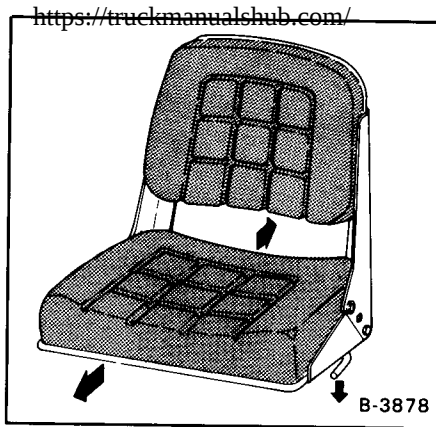
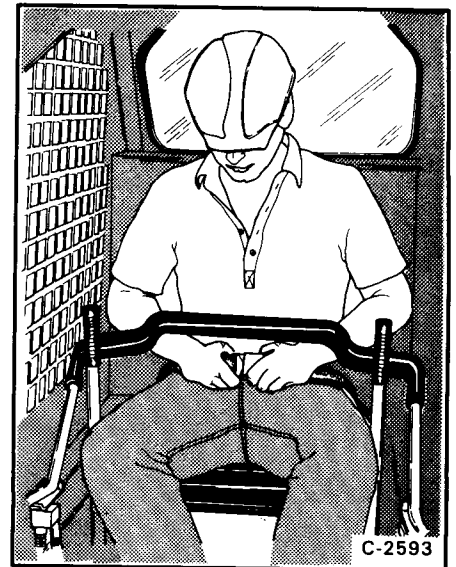

Fig. 21 Adjusting the Seat
Fig. 22 Fastening Seat Belt
1. Adjust the seat position so that you can reach the controls of the Bobcat loader (Fig. 21). Fasten and adjust the seat belt. Lower the seat bar (Fig. 22). Engage the parking brake.